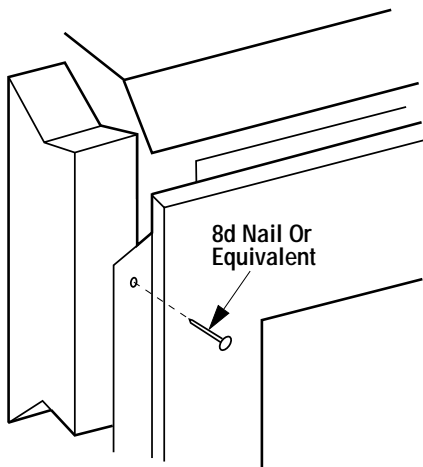

Figure 17
**Step 7.** Cut or frame hole through the outside wall for the installation of the duct inlet hood. A 4 1/4" (114 mm) diameter hole is sufficient. Feed the loose end of the flexible air duct through the hole cut for the inlet hood and attach to collar on inlet hood using two (2) screws. Insert hood into opening. Secure in place with nails driven through holes in hood flange. Seal with noncombustible waterproof silicon type caulking. If additional air duct is needed, use Class 0 metallic air duct.
**Step 8.** Fireplace should be secured to side framing members using the full length nailing tabs at the top and bottom of the fireplace front face. Use 8d nails or equivalent (Figure 17).